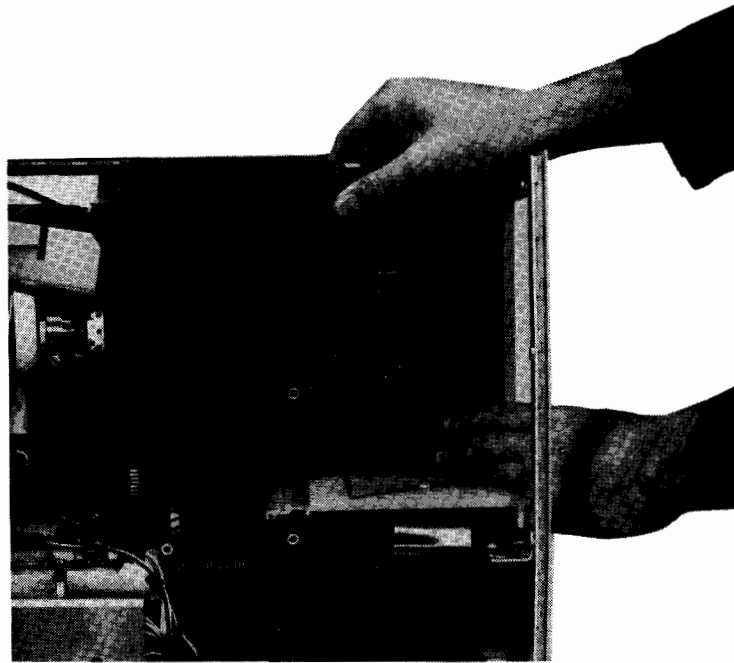

Figure 4-18. Removing the Motherboard
6. Slide the Motherboard out the left side of the computer (see Figure 4-18). It may be necessary to flex the board slightly.